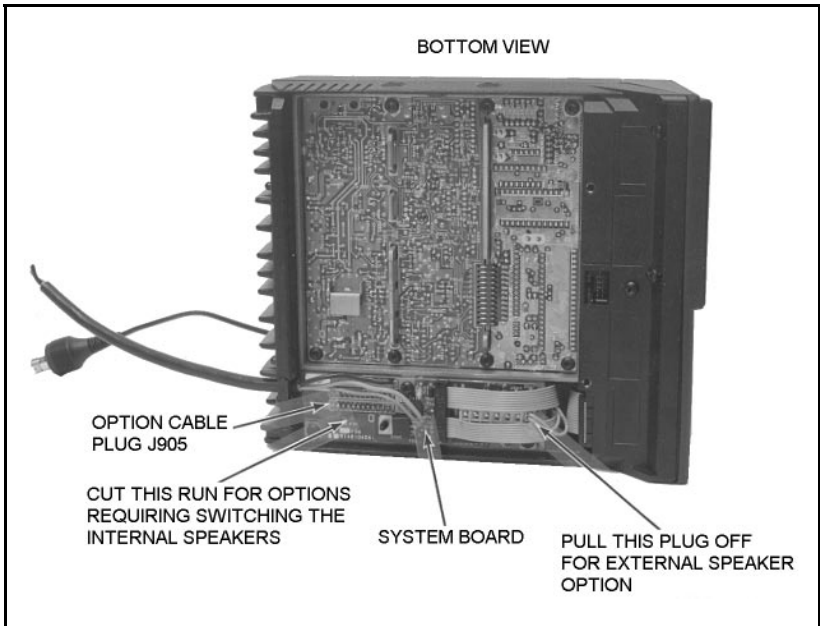

Figure 9 - Bottom View (Cover Removed)
3. Plug the Option Cable into J905A on the System Board and push the strain relief on the cable into the slotted opening. Refer to Figure 9.
If the tone decoder requires switching the internal speaker, remove the radio bottom cover and cut the PC run between holes 6 and 7 on the System Board. Refer to Figure 9 for PC run identification.
3. Before replacing the bottom cover of the radio, unplug the internal speaker from A5 J904 on the System Board. Refer to Figure 9.